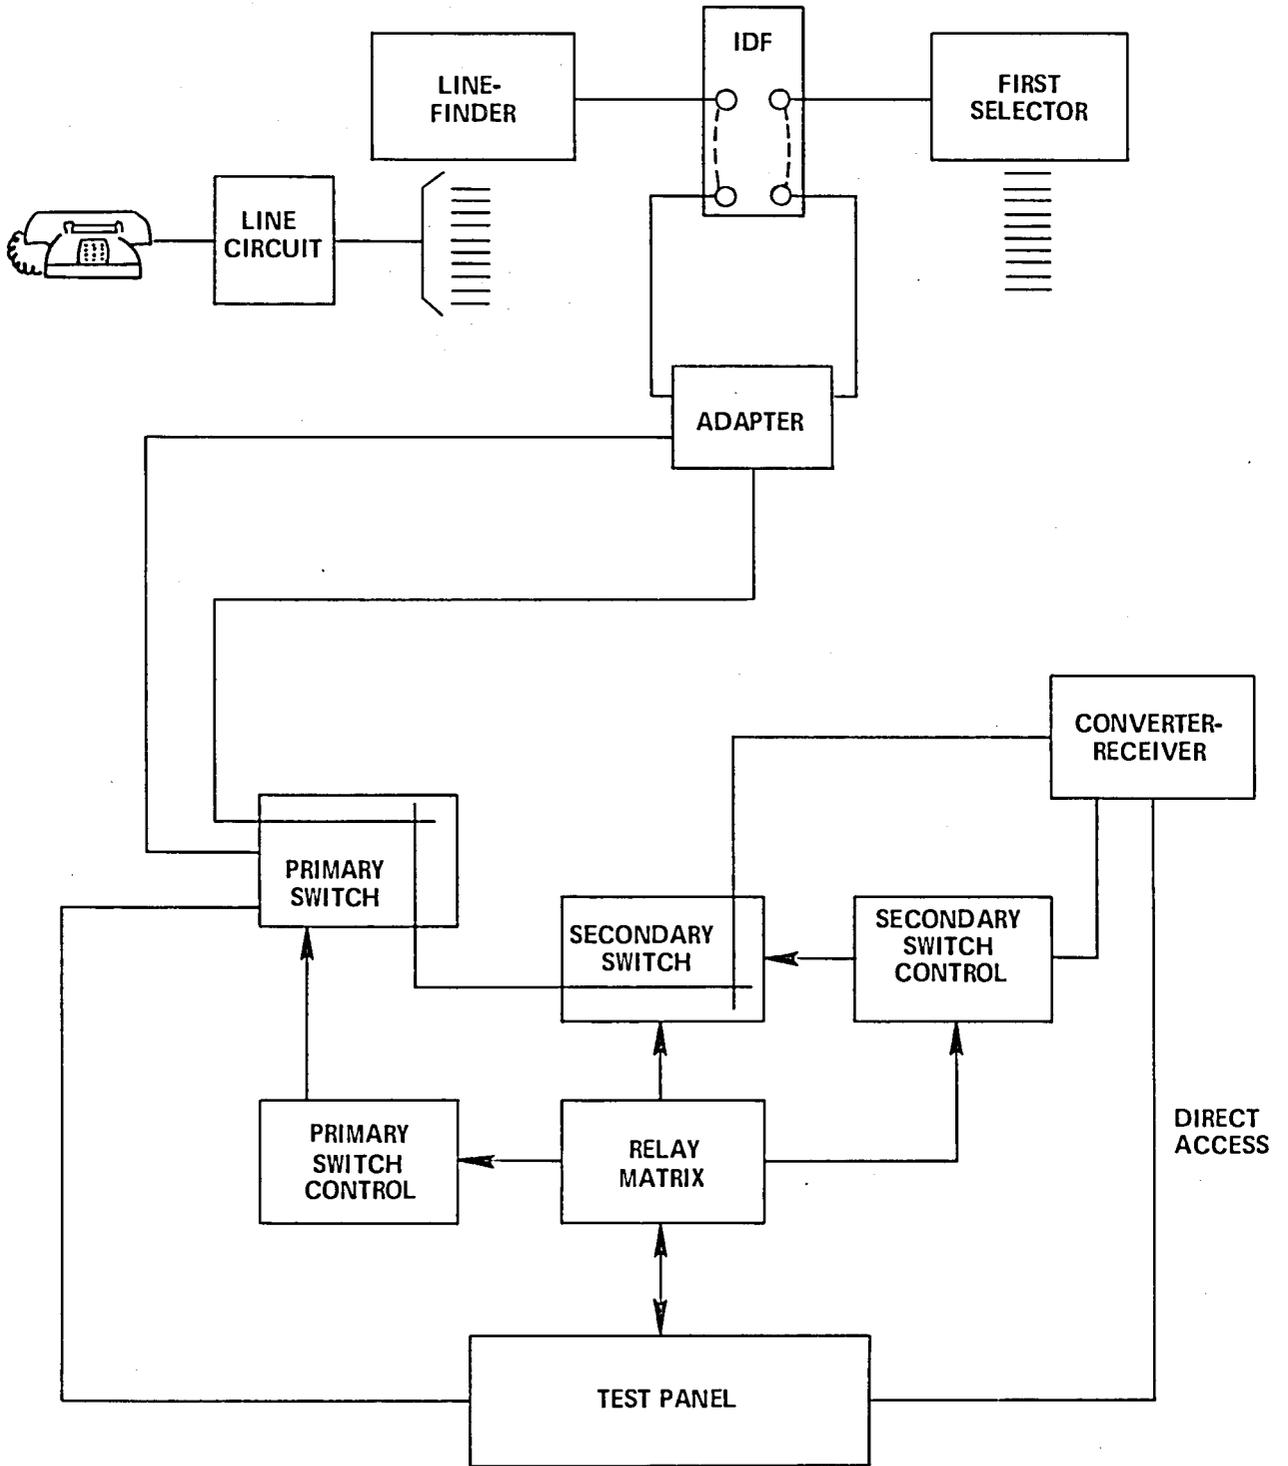

Fig. 3 - Tel-Touch III Block Diagram
3.01 The Tel-Touch interface with a typical SXS system, and the modules involved are shown in Fig. 3.